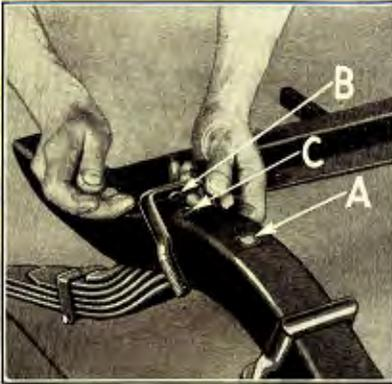

Fig. 66
- 68** *Install rear spring* by entering spring into cross member, making sure that head of tie bolt (See "A" Fig. 66), enters hole in cross member.